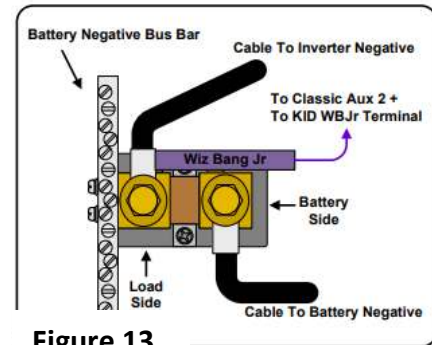

Figure 13
The shunt is wired in series on the electric low side, or negative side, of your system. The wire marked “Cable to Inverter Negative” (Figure 13) shows the shunt connection point for **ALL** negative wires from the Rosie, additional charge controllers, wind turbine negative, DC refrigerator, etc. All negatives land there. The other shunt bolt connection is the single cable from the shunt to the battery bank’s master negative terminal.
2. Reference **Figure 13**: